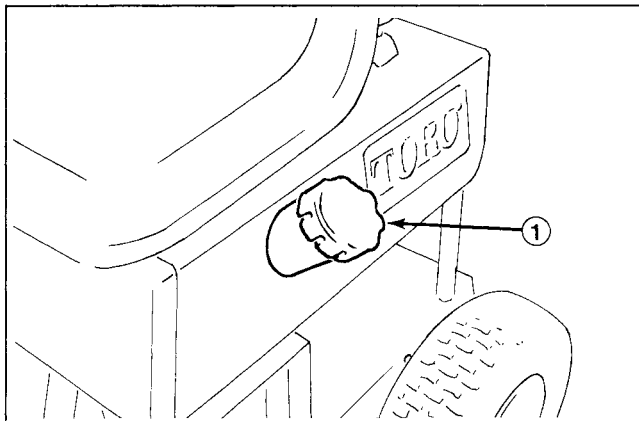

Figure 13
1. Clean around fuel tank cap so foreign matter cannot enter filler hole when cap is removed. Next, remove cap from fuel tank (Fig. 13).